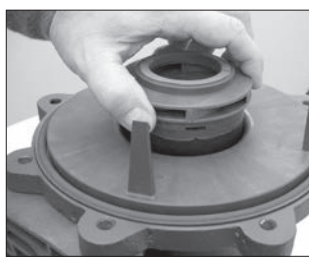

Figure 45
- Carefully install the impeller/inner drive assembly (items 7A, 7, 8, 8A) by sliding it over the impeller shaft in the barrier. It is normal for the impeller/inner drive to pop up a slight amount due to magnetic forces. See figures 45 and 46.